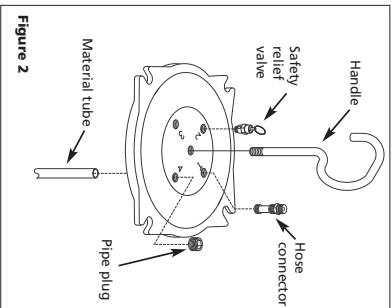

Figure 2
2. Assemble the safety relief valve to the tank lid port #2 (See Fig. 2).
3. Install the pipe plug into the 1/4 NPT port #4 of the tank lid (See Fig. 2).
5. Install hose connector in tank lid port #1 from the top (See Fig. 2).